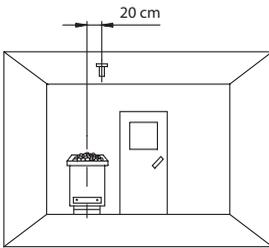

Fig. 7
1. Mount the oven sensor in cabins up to 2 x 2 m according to Fig. 7 and 8, in larger cabins according to Fig. 7 and 9.